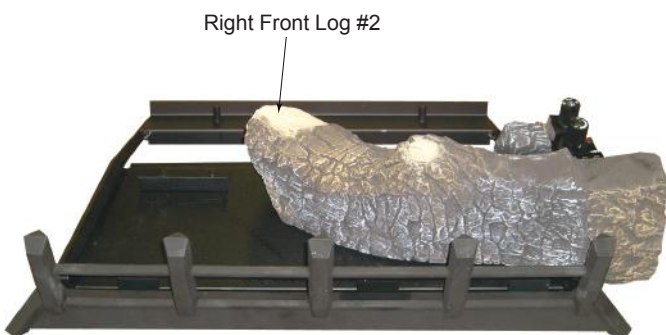

Figure 6.12 - Log #2 Placement
2. Place front right log (#2) on right pin located on burner and right grate bar. See Figure 6.12. After placing front right log, ensure log is fully upright and tilting towards the back of the burner.